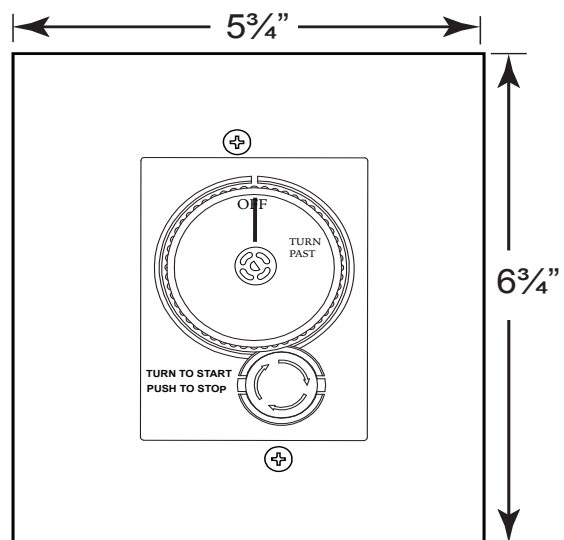

Fig.7 Cover plate outer dimensions.
Step 7: When cover plate is installed over the ESTOP gas timer it will protrude $\frac{7}{8}$ ". See Fig. 7 for outside dimensions.